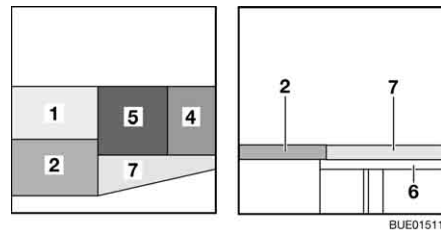

Fig. 128 After conversion
- Place the seat cushion (Fig. 128,5) in the centre.
- Place the back cushion (Fig. 128,4) between the seat cushion and the wall.
- Hook the bed widening (Fig. 128,6) into the recesses on the bench seats.
- Place the additional cushion (Fig. 128,7) on the bed widening.